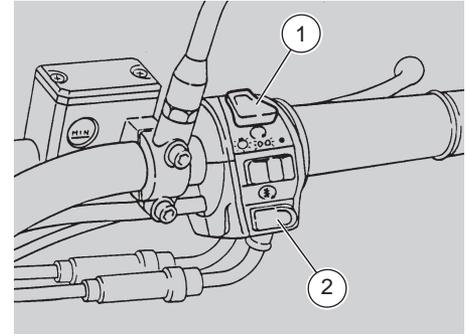
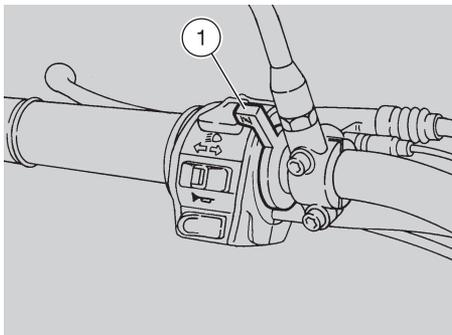
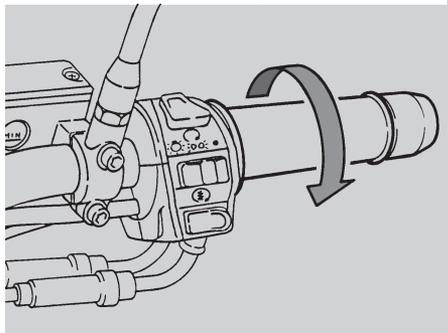

Fig. 19
Fig. 20
Fig. 22
- ◆ Move the engine stop switch (1-Fig. 19) to the "O" position.
- ◆ Press the "🔔" push button (2-Fig. 19) with released throttle grip, then release it as soon as the engine has started. If the engine is cold, rotate the "|\|" lever (1-Fig. 20) downwards.
- ◆ Warm the engine up until it runs normally, with the air lever "|\|" (1-Fig. 20) completely rotated upwards.
- ◆ Rotate the cold start lever "1" (1-Fig. 20) downwards.
- ◆ Press the "⊗" push button (2-Fig. 19) for a few seconds (letting the engine idle) with completely open throttle (Fig. 22). At this point, if the engine starts, release the "⊗" push button and the throttle grip. If the rpm minimum isn't constant, act on the throttle grip rotating it slightly, but frequently. If the engine does not start, wait 10 seconds and carry out the starting again (p. 28).
- ◆ Release the clutch lever gently and at the same time increase the engine speed by rotating the throttle grip gradually (Fig. 22).